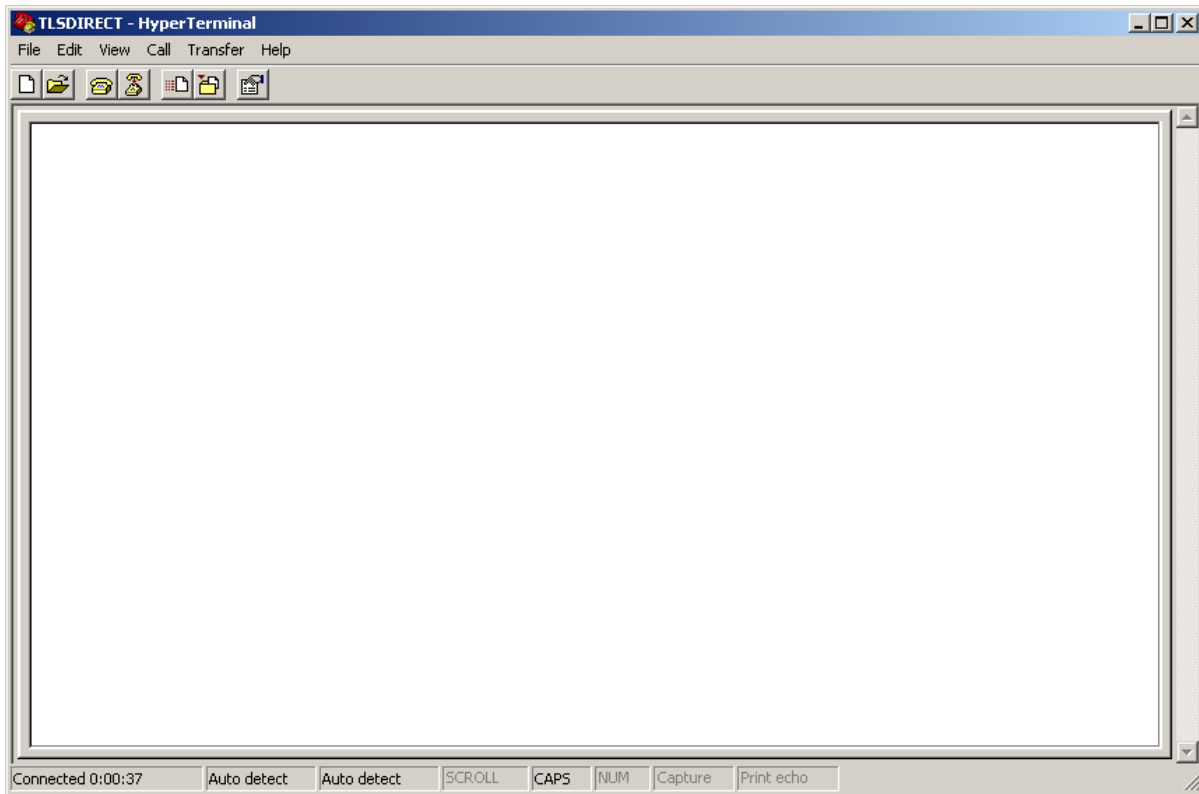

Figure 14. HyperTerminal Main Window
6. After entering your port settings, the program's main window appears (Figure 14).